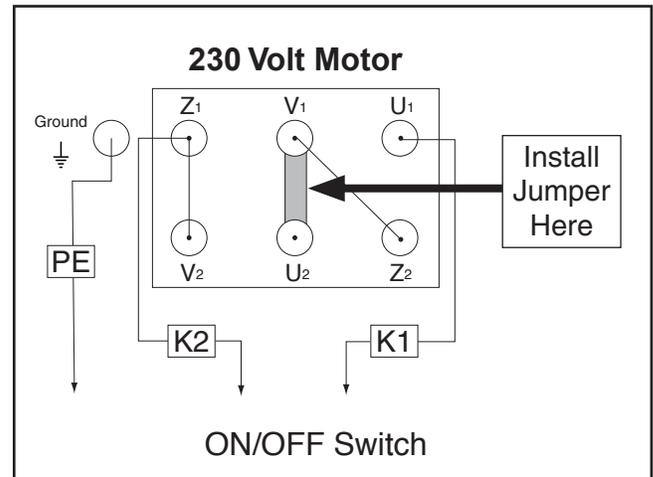

Figure 4. Location of terminal jumper to be installed.
4. Install a terminal jumper as indicated in **Figure 4**.